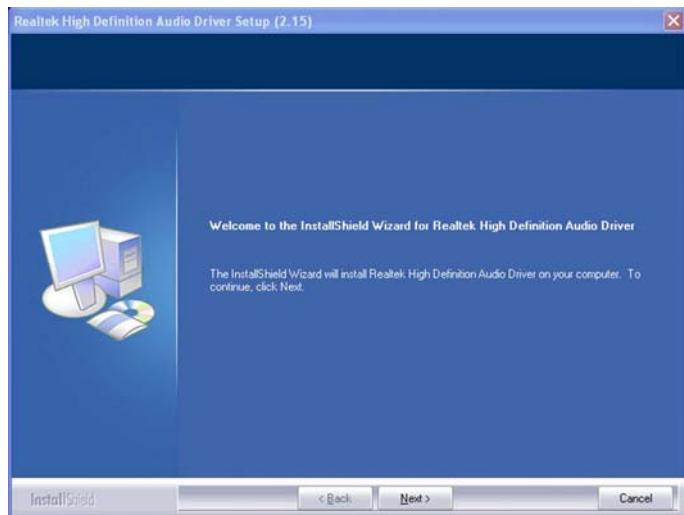

Figure 7-24: HD Audio Driver Setup Welcome Screen
Step 5: The **Welcome** screen appears. Click **NEXT**. See **Figure 7-24**.
Step 5: The Realtek Audio Setup prepares the install shield to guide you through the rest of the setup process. See **Figure 7-24**.